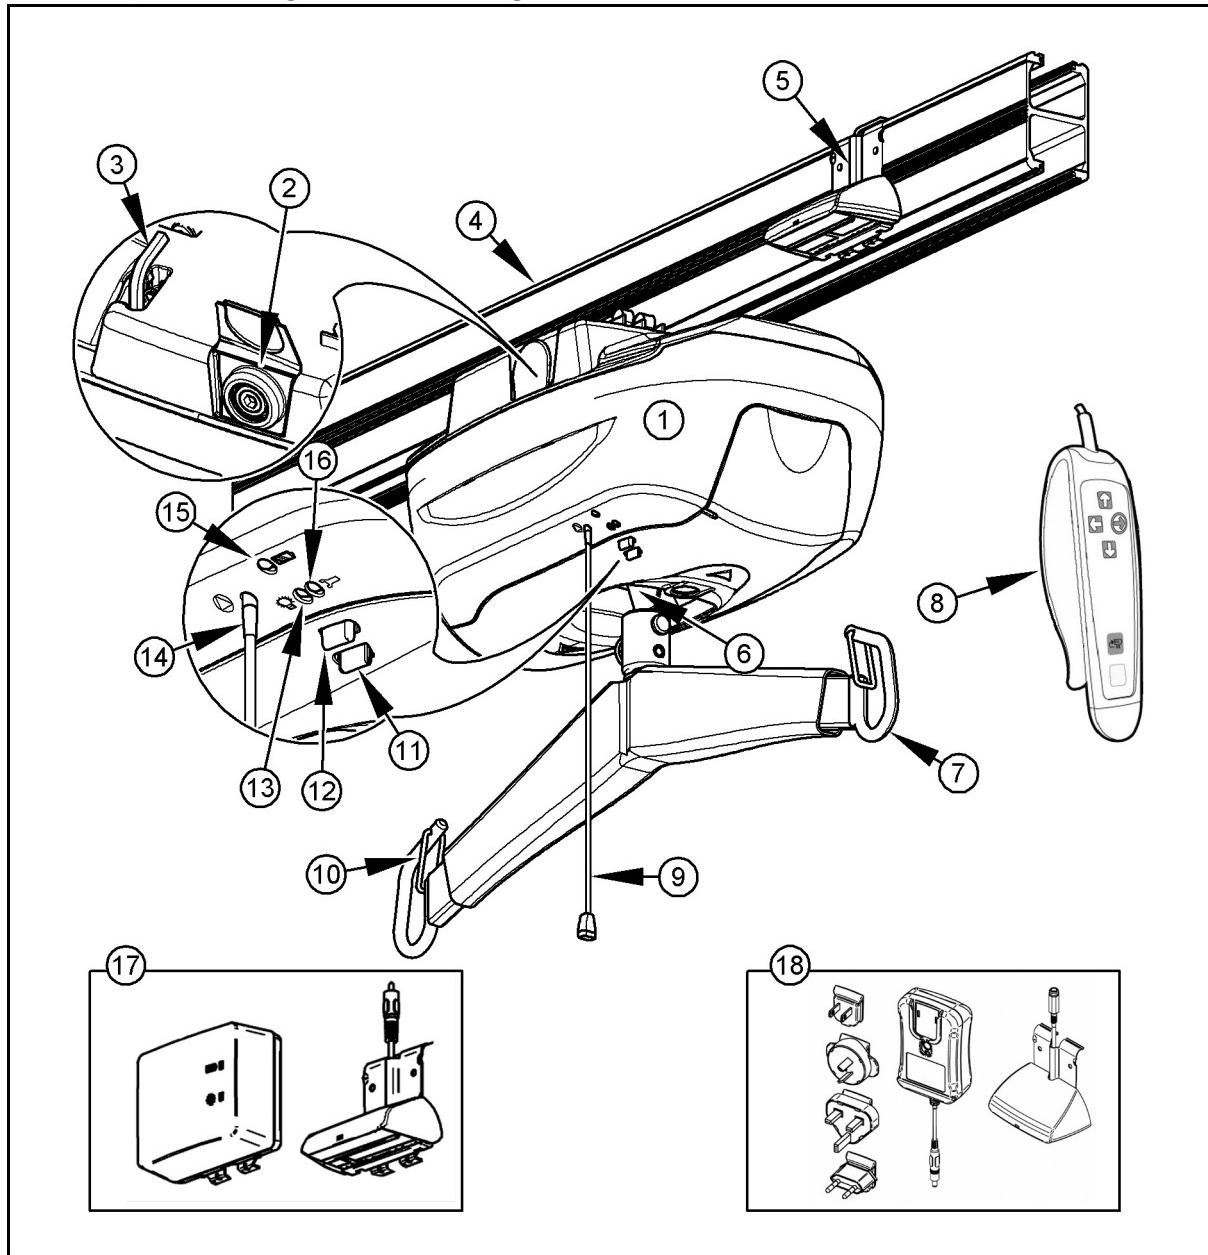

Fig. 4
The following refers to Fig. 4 on previous page:
The *Maxi Sky⁶⁰⁰* units are equipped with either a cord-connected universal charging system (#700.15500) or a wall-adapted charger (#700-15501) that can both be customized to fit the AC voltage outlets where they are sold (see Fig. 4).
- 1) To stop the ceiling lift in any emergency, gently pull the red emergency cord once, until you hear a “click” (see Fig. 4 in the “Part Designation” section of this manual). You will notice that the reset switch’s plastic insert, at the very top of the red cord, has descended. The green power light has also turned off. You may also notice that the patient begins to descend slowly when the emergency stop is activated. This is normal.